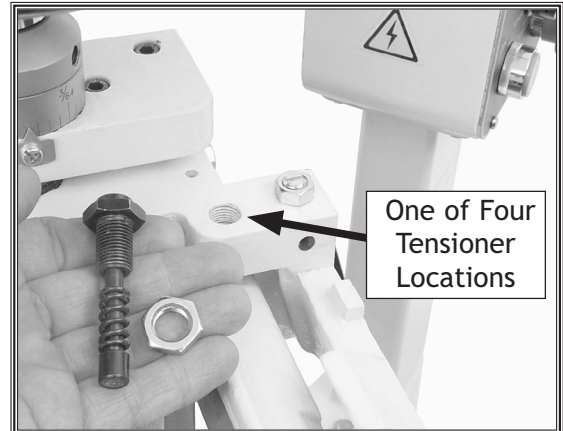

Figure 49. Roller spring tensioner assembly.
However, this machine does need lubrication in other places, such as those shown in **Figures 49–51**. At a minimum, lubricate these areas every six months, but under heavy use or adverse working conditions, increase lubrication intervals accordingly.
2. Record the height of each tensioner nut (**Figure 49**), and unthread each feed-roller spring tensioner assembly.